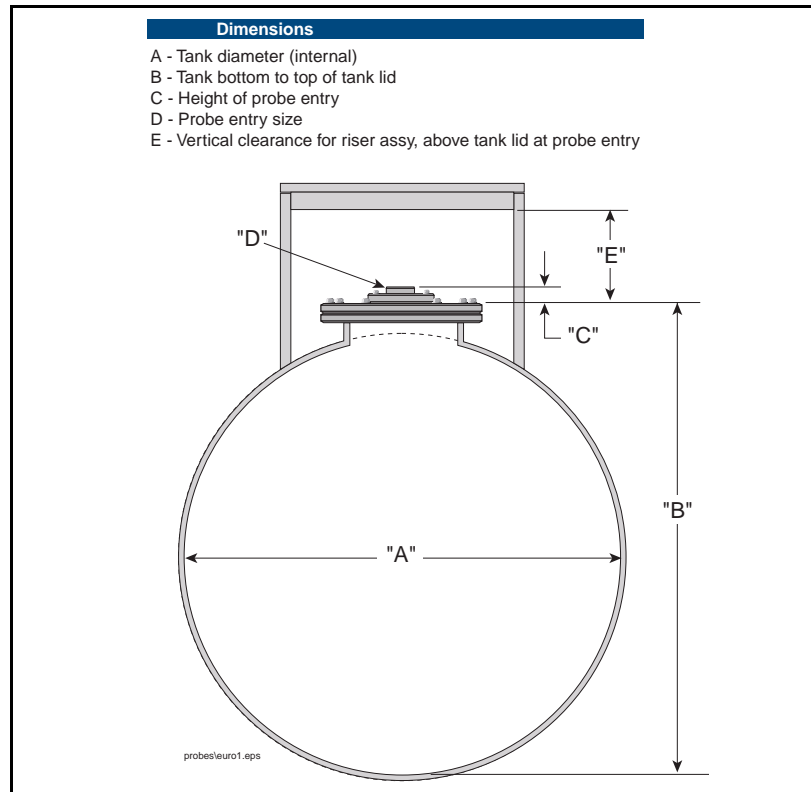

Figure 8. Dimensions needed to calculate custom probes and risers
- Veeder-Root make special provision for tank lid access chambers of restricted depth. Contact Veeder-Root Technical Support or your Sales Administrator for details on custom length Mag Probes and low profile riser kits, having the dimensions listed in Figure 8 available.
Refer to Figure 8 on page 10 and carry out the following procedure.